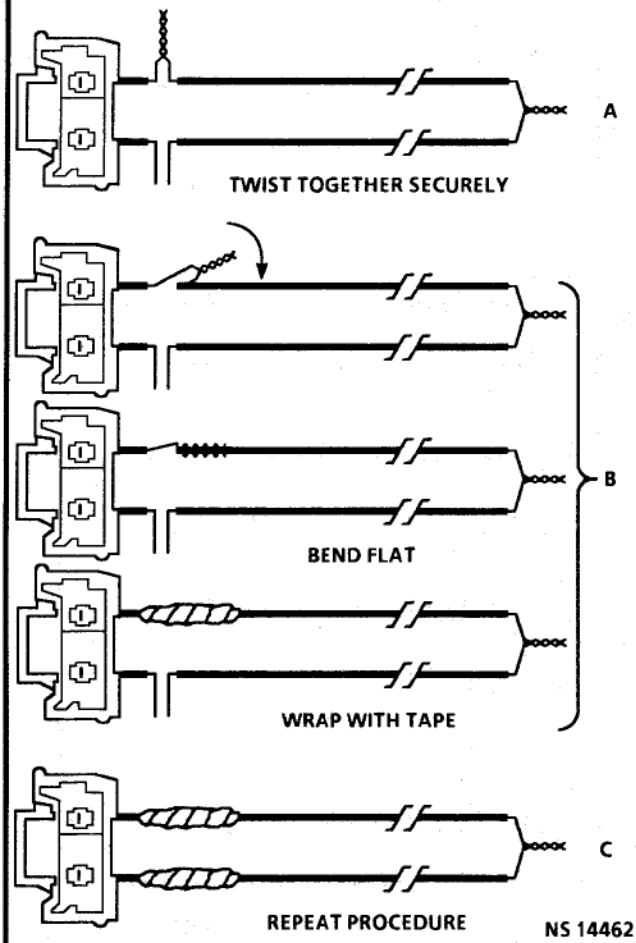

Figure 26 - Fabricating the Deployment Harness
9. Twist together one connector wire lead to one deployment wire. The connection should be mechanically secure (Figure 26-A).
10. Bend twisted connection made in the previous step flat and wrap tightly with electrical tape to insulate and secure (Figure 26-B).
11. Twist together, bend and tape the remaining connector wire lead to the remaining deployment wire (Figure 26-C).